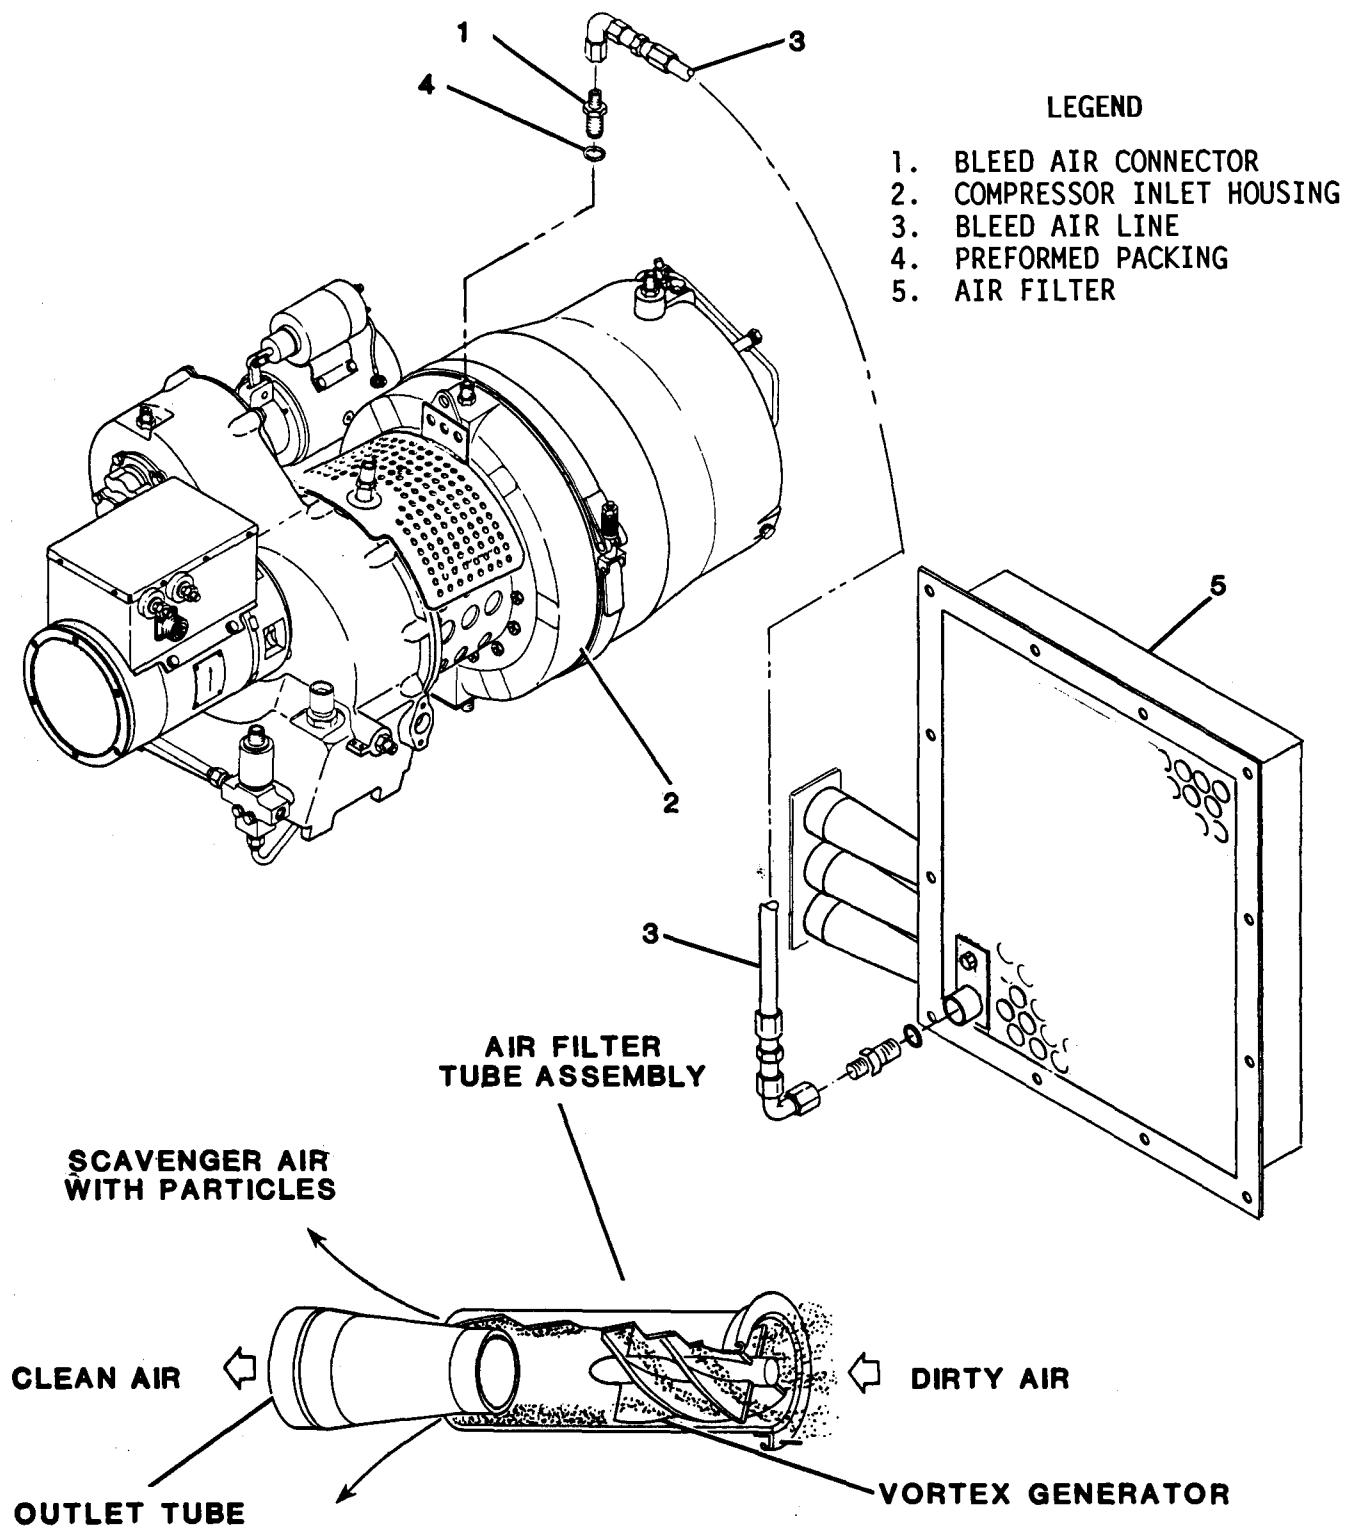

Figure 4-11. Bleed Air Connector and Bleed Air Line Replacement
4-18. BLEED AIR CONNECTOR. The bleed air connector (1, figure 4-11) is installed in the top of the inlet housing (2) and connected to the air filter (5) by the bleed air line (3). Bleed air at approximately 25 psi (172.38 kPa) goes from the inlet housing to the air filter where it is used to remove foreign matter. Foreign matter is removed from the air in the air filter tube assemblies.
(1) Loosen turnlock fasteners and remove engine housing access cover.
(2) Ensure that bleed air connector (1) is secure in compressor inlet housing (2). Torque to 135-150 inch pounds (15.3-17.0 Nm).
(3) Ensure that bleed air line (3) is securely attached.
(4) Install engine housing access cover and secure with turnlock fasteners.
(1) Place new preformed packing (4) on bleed air connector (1).
(2) Install bleed air connector in compressor inlet housing (2) and torque 135-150 inch pounds (15.3-17.0 Nm).
(3) Connect bleed air line (3) to bleed air connector (1).
(5) Connect battery cable plug connector.
4-19. BLEED AIR LINE. The bleed air line (3, figure 4-11) is connected between the bleed air connector (1) and the air filter (5). It provides a passage for bleed air at approximately 25 psi (172.38 kPa) from the compressor inlet housing (2) to the air filter.
(3) Check hose for abrasions, kinks, or twists. Replace if damaged.